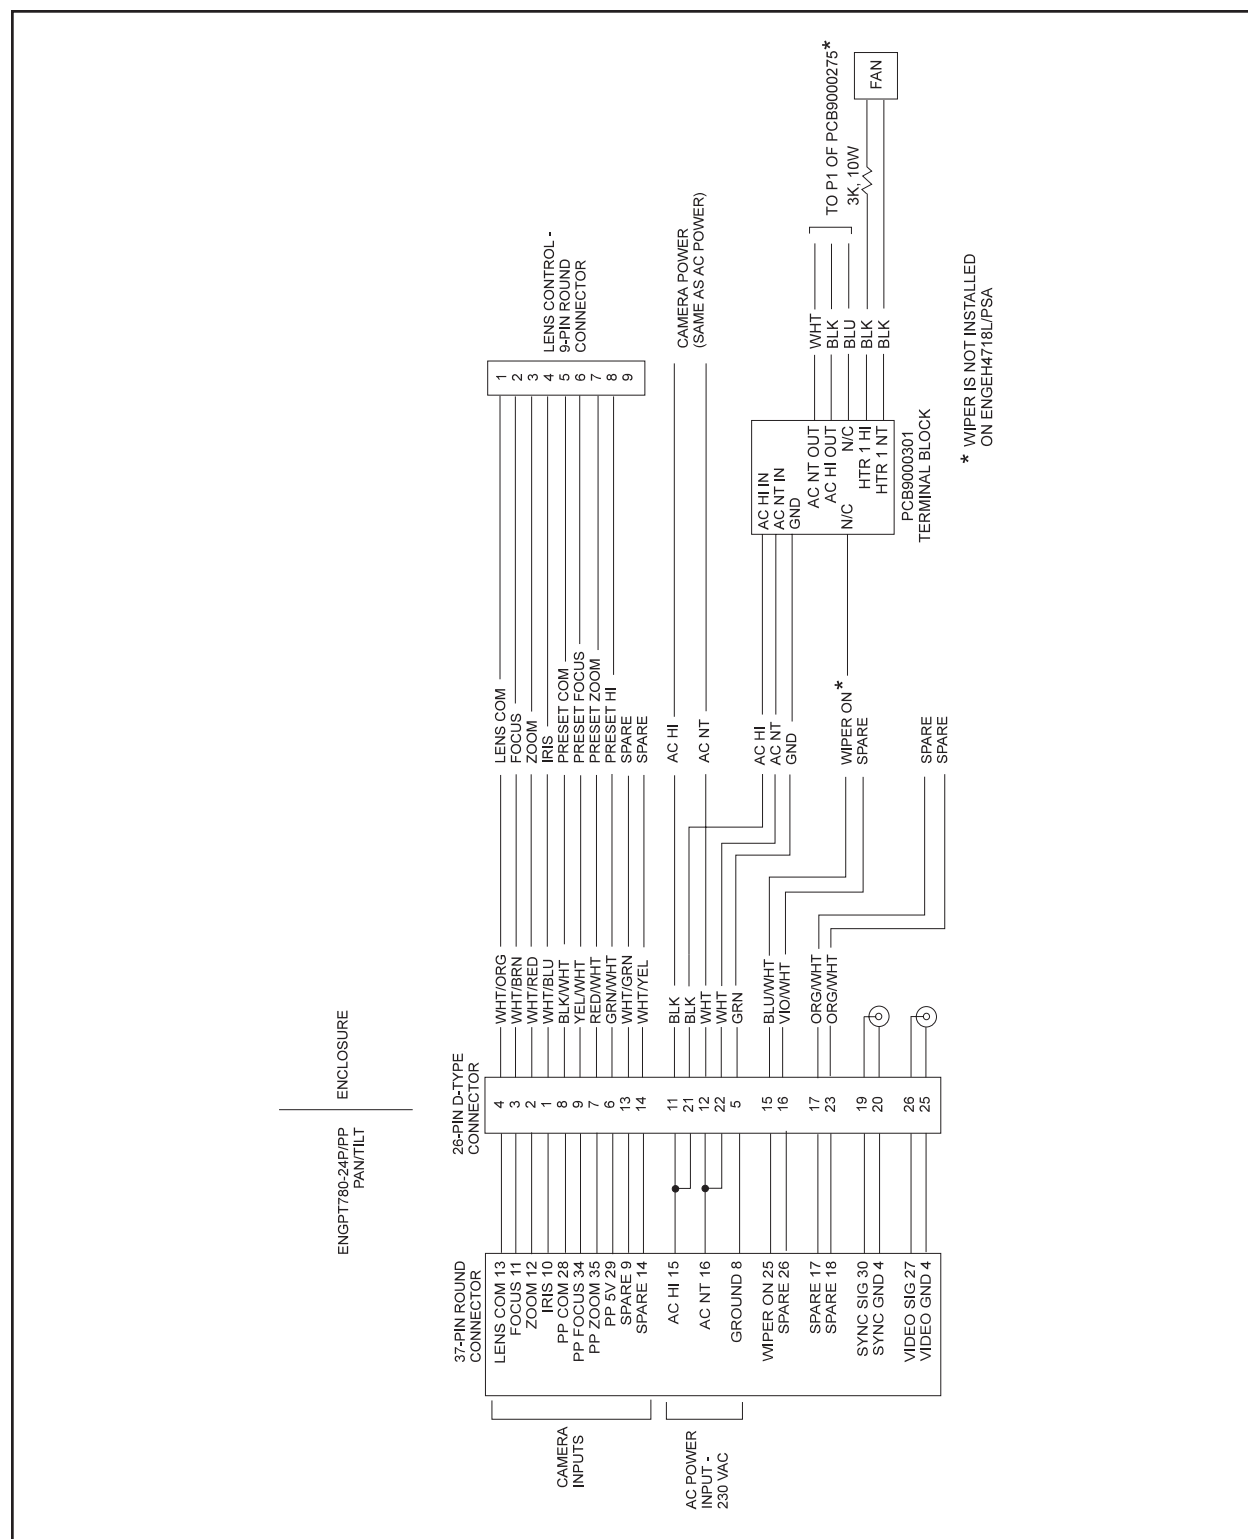

Figure 3. EH4718L/WPSA and EH4718L/PSA Wiring Diagram
8. If your camera has a motorized zoom lens control, connect or wire the camera's lens control to the LENS CONTROL connector inside the enclosure. Refer to Figure 3.
9. Wire power to the camera. Refer to Figure 3.